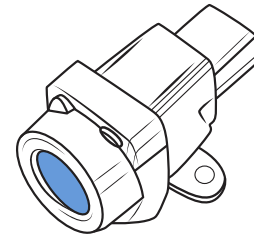

Figure 11 - Crash sensor
2. Locate the crash sensor and press the button (Figure 11 and 12).